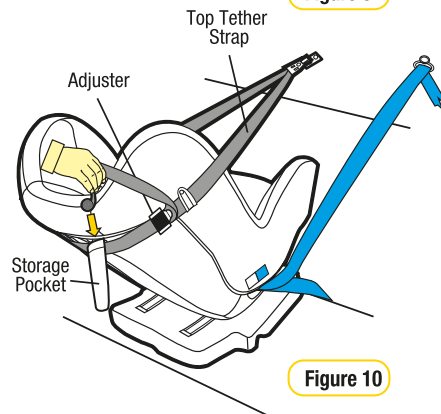

Figure 10
Step 8: Store any excess webbing, from the top tether strap, in the storage pocket provided on the restraint (refer Figure 10).